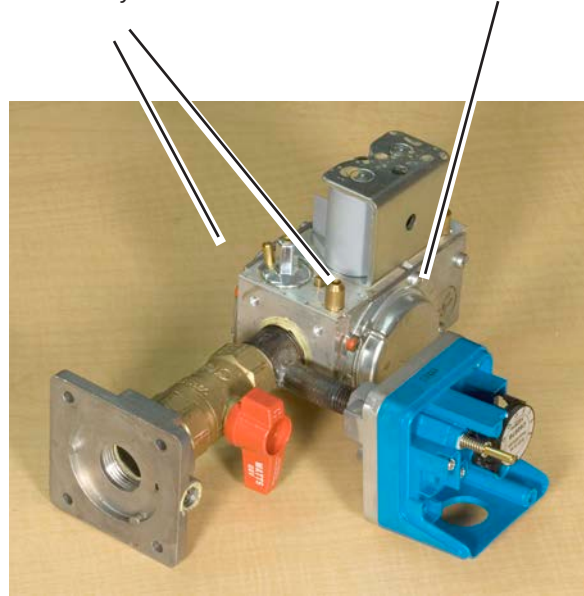

Fig. B11-6 - The gas assembly after removal
9. Now you can remove the whole assembly from the machine. Figure B11-6 shows the complete assembly.